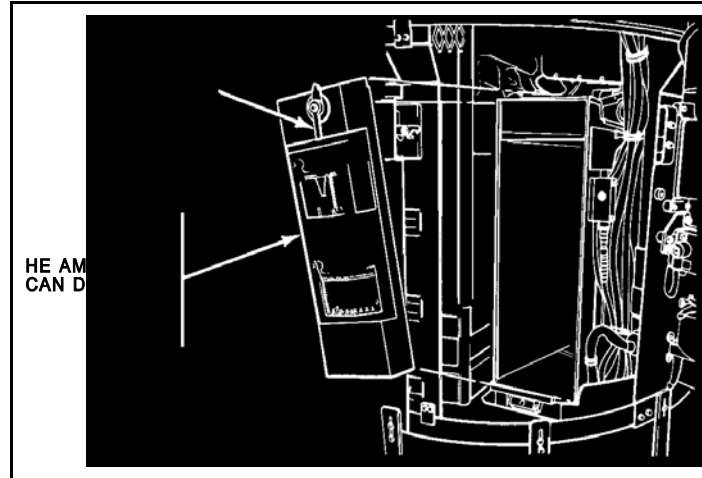

Figure 1. HE ammunition can door.
4. Open and remove the HE ammunition can door (Figure 1).